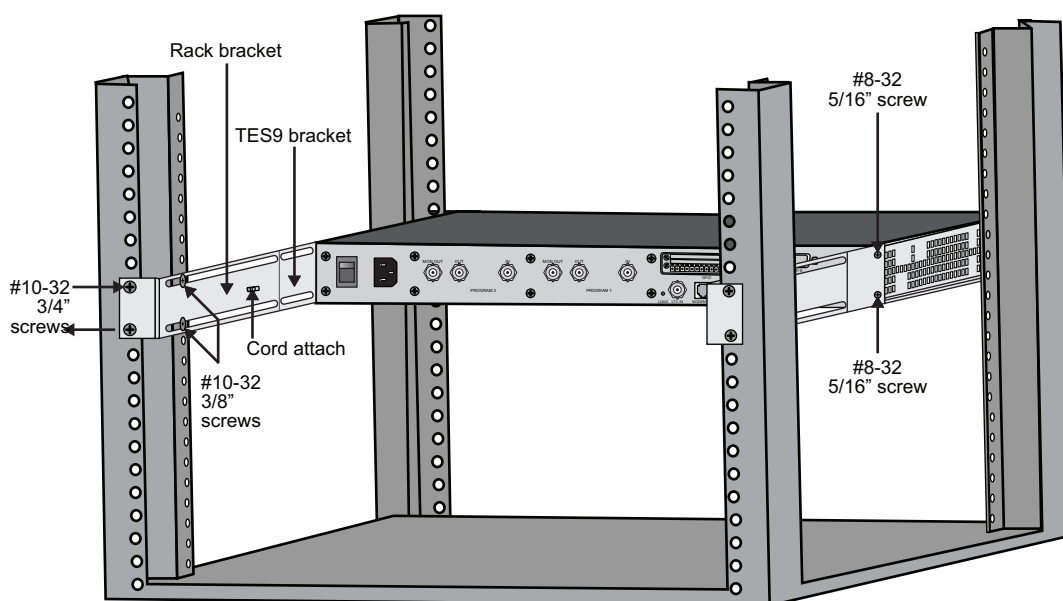

Figure 3.1 TES9 Rear View — Rack-mounting Detail
This section describes how to mount the TES9 in the rack. In using these instructions, consult **Figure 3.1**. Note that the TES9 should be attached to both the front and rear of the rack; because of the weight of the potentially large number of cables connected to the rear of the TES9, rear rack mounting is strongly advised.
1. Attach the rear TES9 brackets (41-10437-01) to both sides of the chassis using the mounting holes near the rear of the TES9. Use the #8-32 flat-head screws, and insert them through the countersunk holes in the bracket into the mounting holes on the TES9. (**Figure 3.1**)
5. Attach the two rear rack brackets to the nut clips installed in the preceding step, using two 3/4" #10-32 screws for each bracket. See in **Figure 3.1**. Before tightening the screws, ensure that these brackets contact the inner side of the brackets mounted to the TES9; that is, they should be closer to the center of the rack than the ones on the TES9. The slots in these brackets should also be approximately aligned with the screw holes in the TES9 brackets.
6. Install two 3/8" #10 screws through the slots in each rear bracket into the captive nuts near the rear end of the TES9 brackets. See **Figure 3.1**.
8. Insert a tie-wrap through the strain relief bridge on the rack bracket near the TES9 power entry module; see **Figure 3.1**. Pass the tie-wrap around the power cord and tighten it to prevent the power cord from being inadvertently pulled out of the TES9.